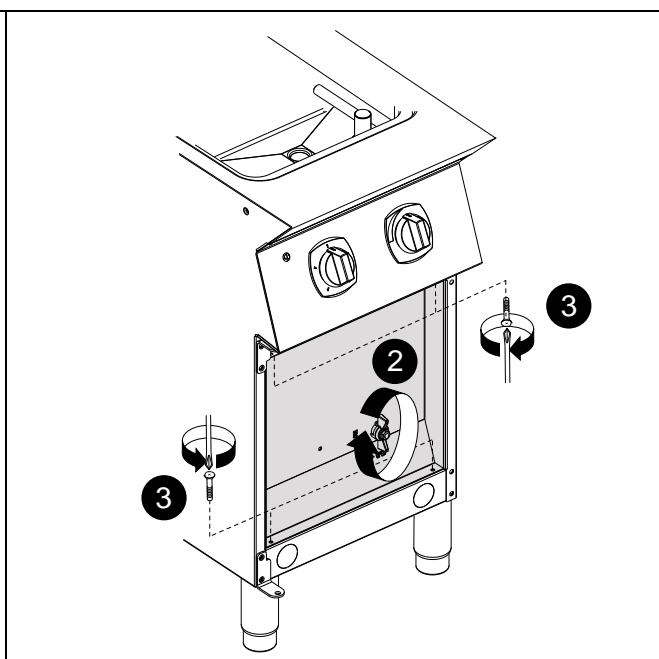

Fig. 6
2. Unscrew the knob of the drain valve (see detail 2 — Fig. 6).
3. Undo the four fixing screws to remove the front panel (see detail 3 — Fig. 6).